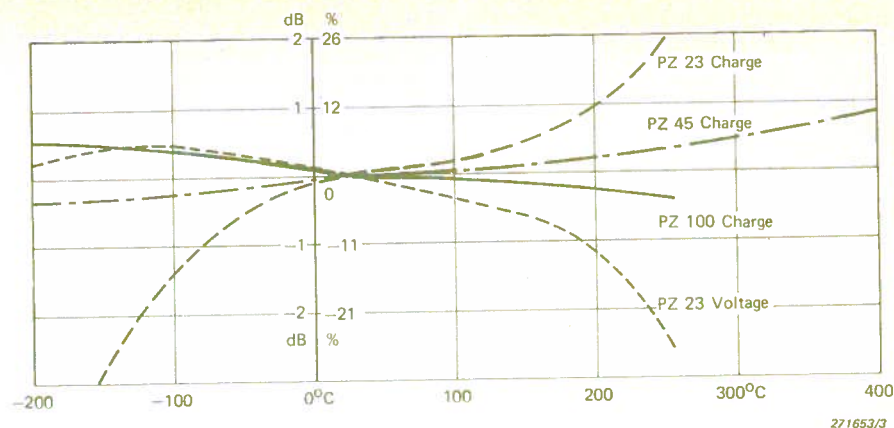

Fig.2. Typical Charge and Voltage sensitivity changes as a function of temperature for the three piezoelectric materials
**Temperature.** Within the temperature range specified for the Brüel & Kjær accelerometers the piezoelectric materials will show temperature dependent variations in sensitivity and capacitance. The variation of voltage and charge sensitivity for the three piezoelectric materials used are shown in Fig.2.